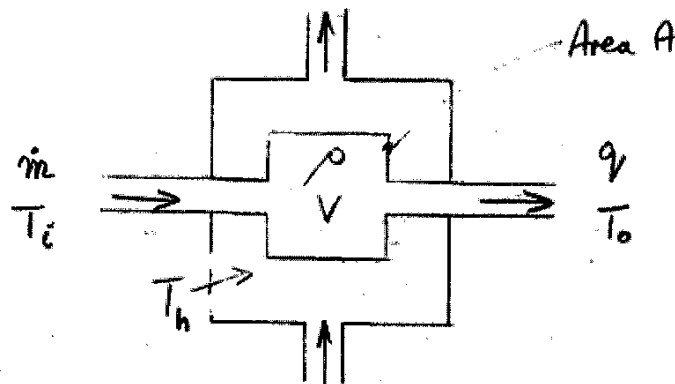

Figure 5.
5. In the heat exchanger in Figure 5, the temperature T_h in the outer chamber can be taken to be constant, because of high flow rate through it. The mass flow rate \dot{m} through the inner chamber is constant. The volume of this chamber is V and its surface area A . Inflow and outflow temperatures are T_i and T_o respectively. The density of the fluid is ρ and its specific heat c . The surface coefficient of heat transfer is h . All equipment sits at T_i prior to $t = 0$ and instantaneously T_h is established in the outer chamber. Find the transfer function T_o/T_H .